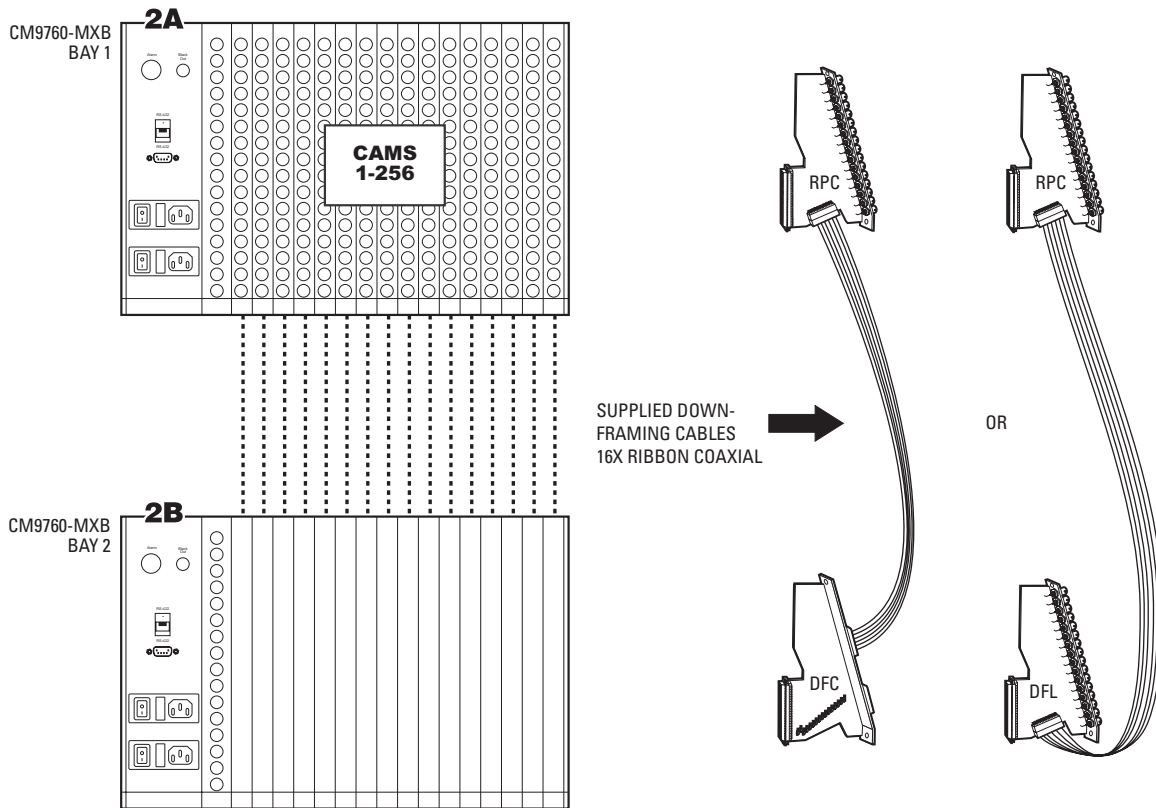

Figure 7. Sample Downframe Cable Connections
- After mounting matrix bays in a downframe configuration, connect each supplied coaxial ribbon cable, referred to as a downframe cable, to downframe connectors on rear panel cards as appropriate. The downframe cables are required to connect the video inputs from one matrix bay to another. Figure 7 illustrates sample downframe cable connections between a CM9760-RPC card and a CM9760-DFC card and between a CM9760-RPC card and a CM9760-DFL card in a configuration containing one downframed bay. For additional information, refer to *Downframing* in the *CM9760-MXB Matrix Bay* section and to *Appendix B*.